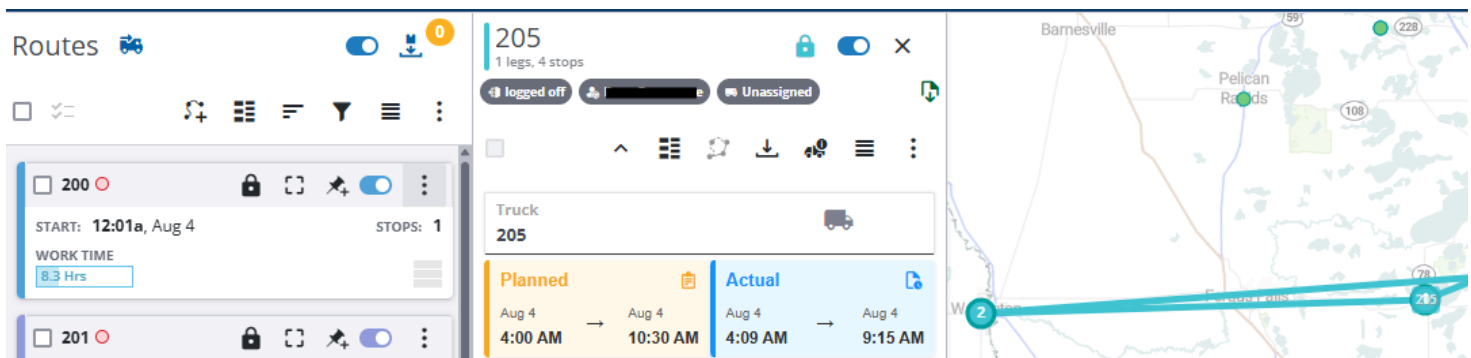

Figure 83 - Stop card for Route 205 - Current Route with Planned and Actual times
1. Click on the Route that needs to be renamed to open its Stops list (See Figure 83 above).